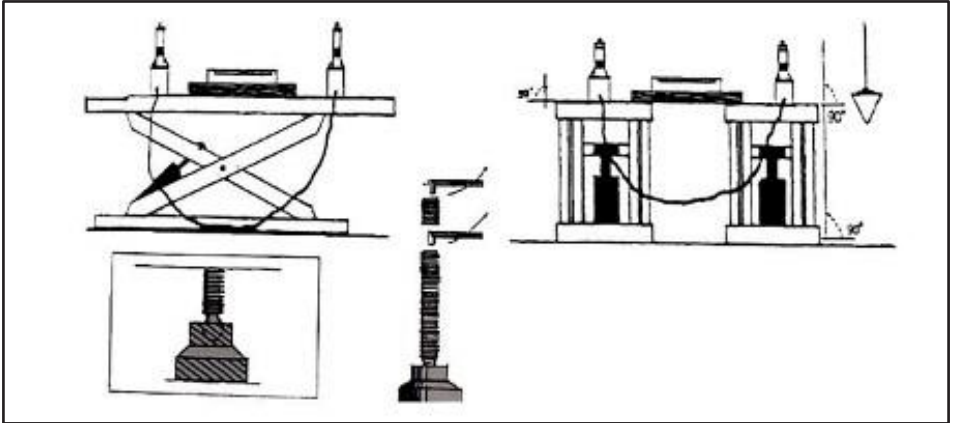

Fig. 23
- Use transparent horizontal pipe or level to check the level of left and right platforms (Figure 23)